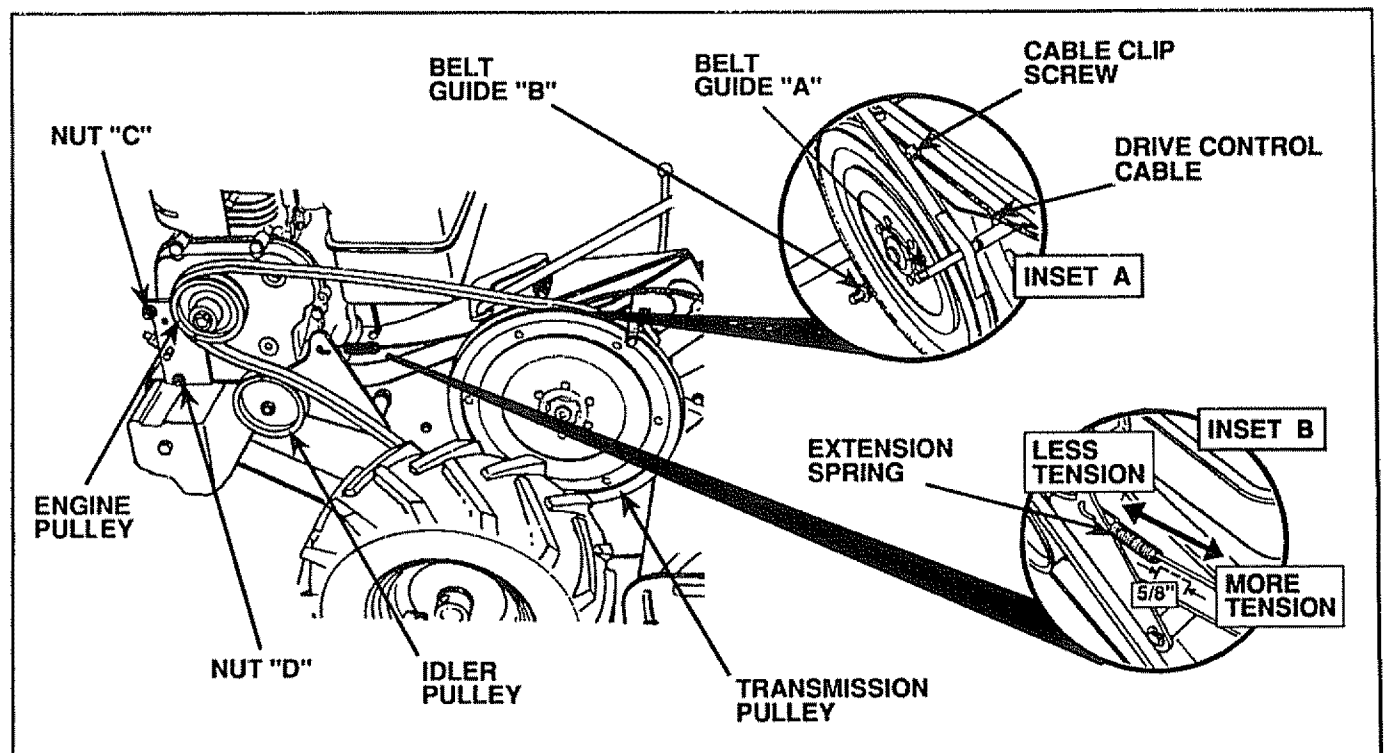

FIGURE 29
- Loosen Belt Guides "A" and "B", and also Nuts "C" and "D" (Fig. 29).
- Loosen Cable Clip Screw securing the Drive Control Cable (Fig. 29 - INSET A).
- Slide Cable forward for less tension and rearward for more tension until about 5/8 inch stretch is obtained while the Drive Control Bar is engaged (Fig. 29 - INSET B).